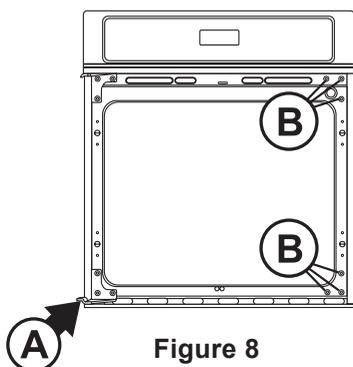
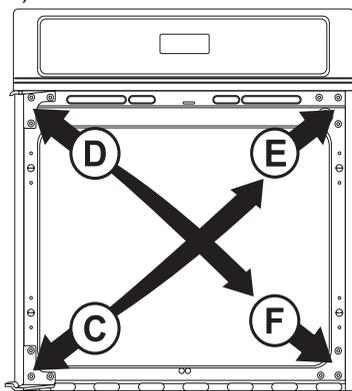

Figure 8
Figure 9
- 3.1.5. Reinstall the threaded pin at its initial position (see A, Figure 8).
- 3.2.2. Remove the lower hinge on the left side of the oven frame (See C, Figure 9) and install it on the upper right side of the oven frame (see E, Figure 8).
- 3.2.3. Remove the upper hinge on the left side of the oven frame (see D, Figure 9) and relocate it on the lower right side of the oven frame (see F, Figure 9).